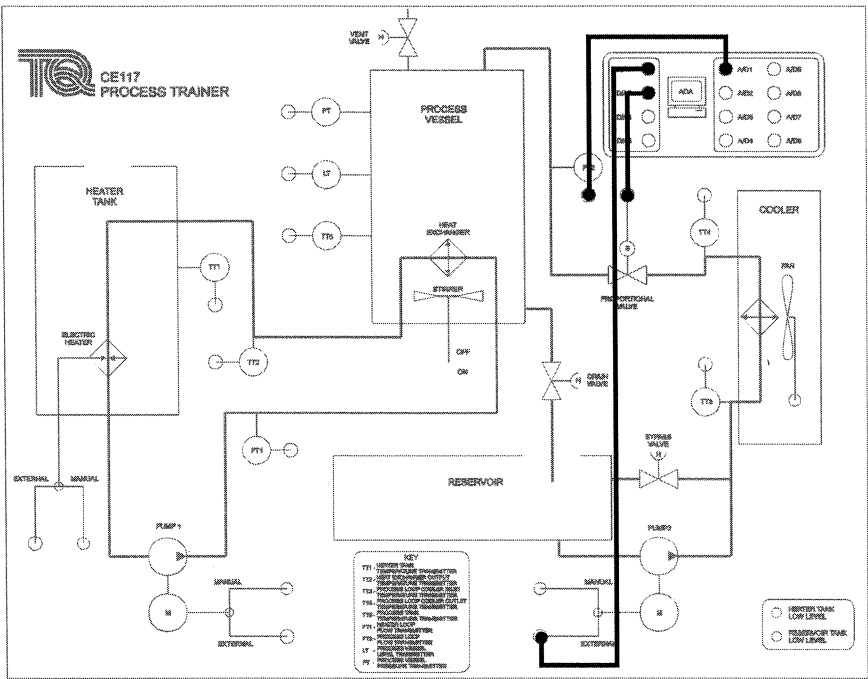

Figure 38 Connections for Experiment 1 Procedure 2.
- 4) Connect the CE117 Mimic Panel as shown in Figure 38. Set Pump 2 switch to 'External'. Analogue signals will pass from the ADA section to Pump 2, the proportional valve S and from flow transmitter FT2. The software will display the flow through the process loop.